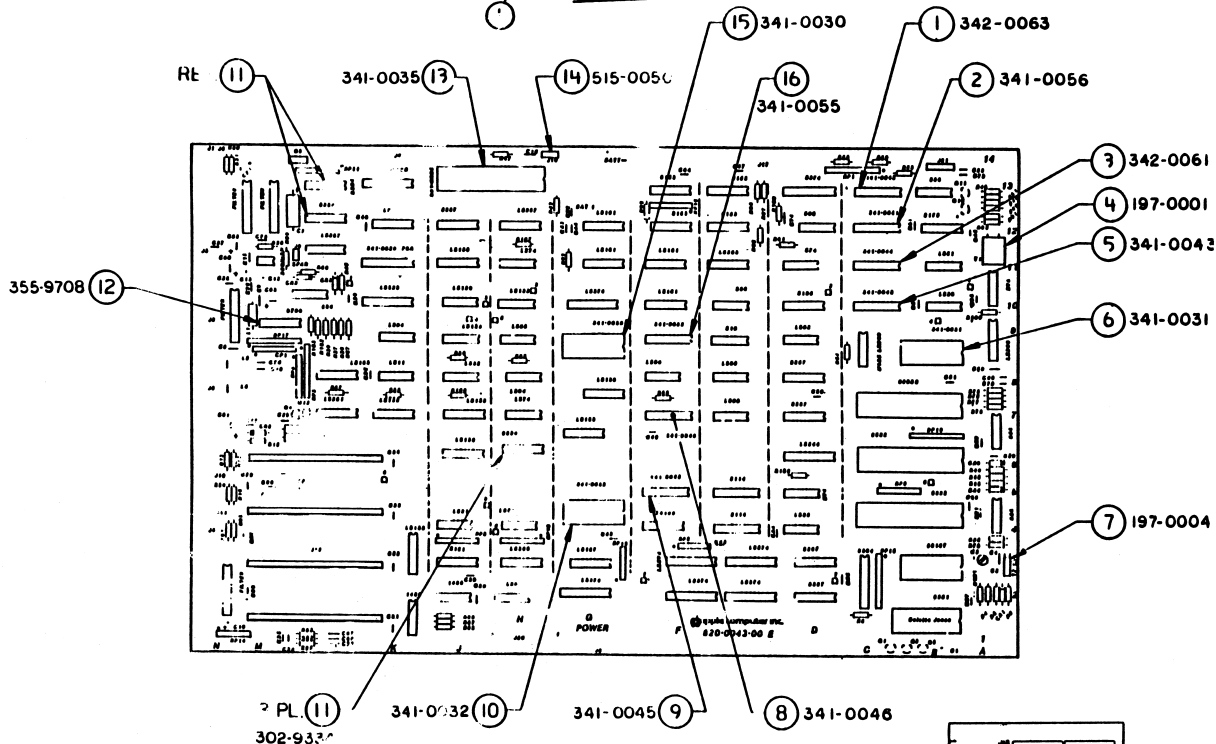

FIGURE 3
- 6.5 Logic Board (Figure 3)
APPLE /// and APPLE /// PLUS - LOGIC BOARD (Figure 3)